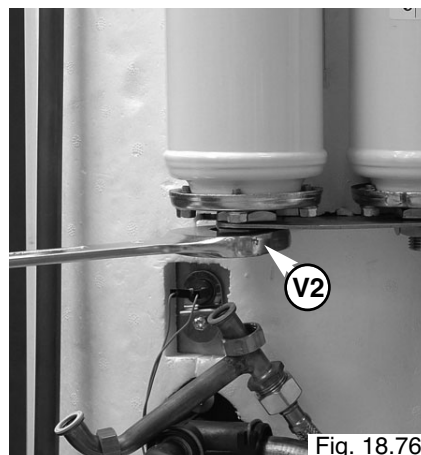

Fig. 18.76
3. Remove the "Pal" nut 1/2 "V2" with a No.34 spanner (see Fig. 18.76);